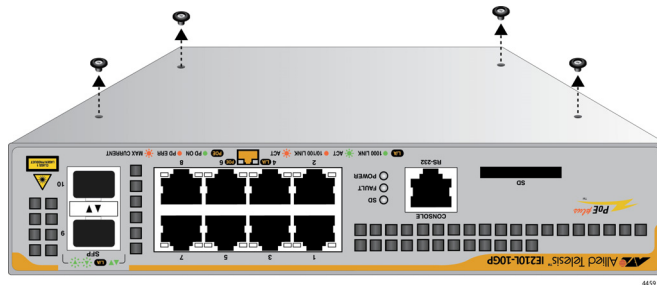

Figure 11. Remove Rubber Feet From Switch
2. Remove the rubber feet with a screwdriver as shown in Figure 11 for an AT-IE210L-10GP switch.